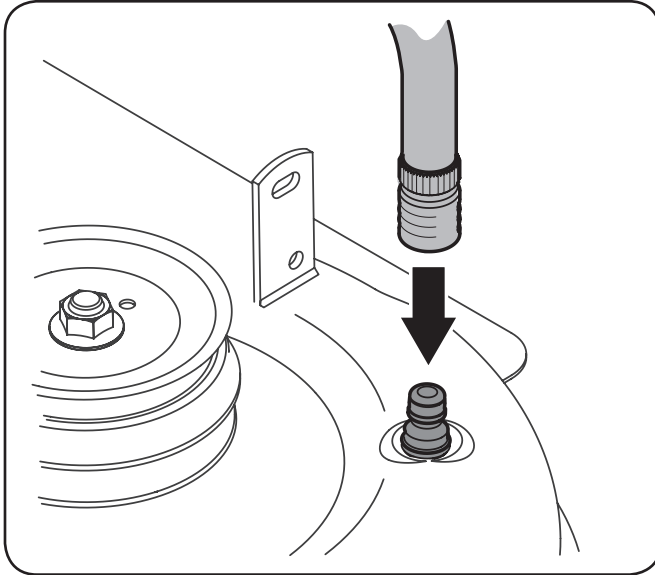

Figure 6-3
- Attach garden hose with the deck wash nozzle to the water port on your deck's surface. See Figure 6-3.